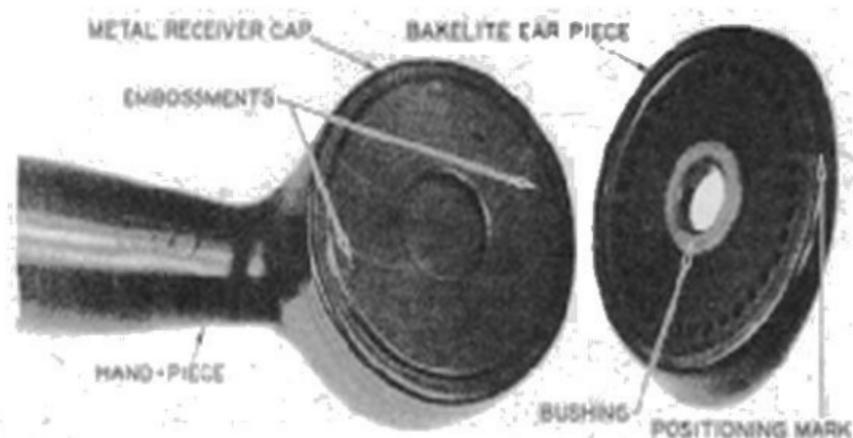

Fig. 4 View Showing Receiver End of Handset with Ear Piece Removed
3. REMOVAL OF EAR PIECE (Fig. 4)